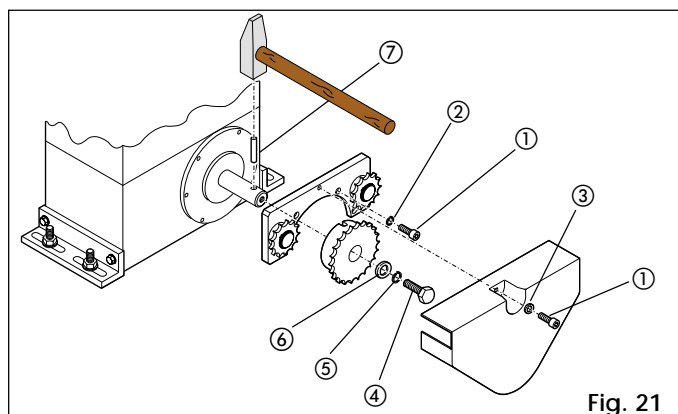
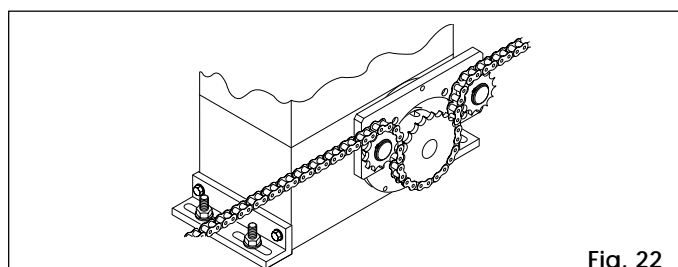

Fig. 21
Fig. 22
4.5.2. MODEL 746 EMC RF (Figs. 21 - 22)
- Insert spring pin ⑦ in the shaft with the aid of a hammer.
- Fit the chain pinion on the shaft, ensuring that the notch on the pinion coincides with the spring pin; fit screw ④ and washers ⑤ and ⑥ and tighten.
- Fit the idle sprocket carrier plate on the gear motor flange, removing the four upper bolts and replacing them with the 5x12 hex bolts ① and washers ② in the kit as shown in Fig. 21.
- Fit the chain as shown in Fig. 22 and fit the casing with screws ① and washers ③ (Fig. 21).